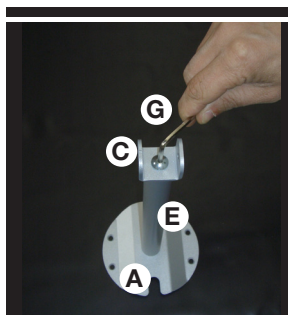

Fig. 2
Take items (A), (E), (C) and (G) like in fig. 2. Mount (A), (C) and (E) using the 2 screws (G).